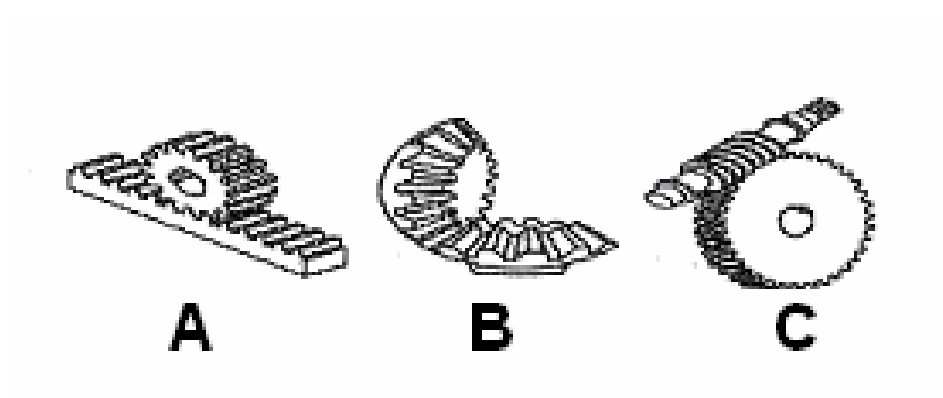

FIGURE 2.3
2.3 FIGURE 2.3 indicates different gear drives.